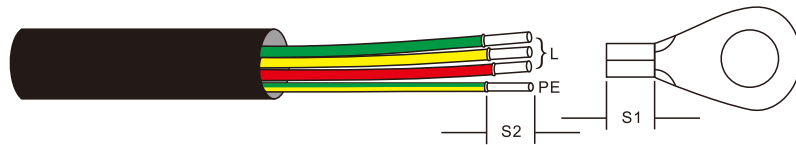

Figure 3.24 Strip AC cable
- 1) Strip the end of AC cable insulating jacket about 300mm then strip the end of each wire. (as shown in figure 3.24)